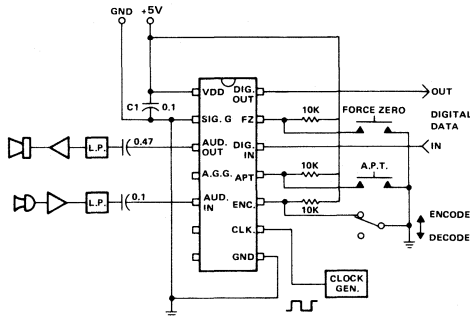

Figure 6 — CVSD Hookup for Evaluation
Figure 6 illustrates a simple evaluation breadboard circuit for the HC-55564. A single device is sufficient to evaluate sound quality, etc. since, when encoding, the feedback signal at pin 3 is identical to the decoded signal from a receiver. The following are some pointers for using the devices:
- 1) Power supply decoupling is essential with the capacitor (C1 in Figure 6) located close to the I.C.